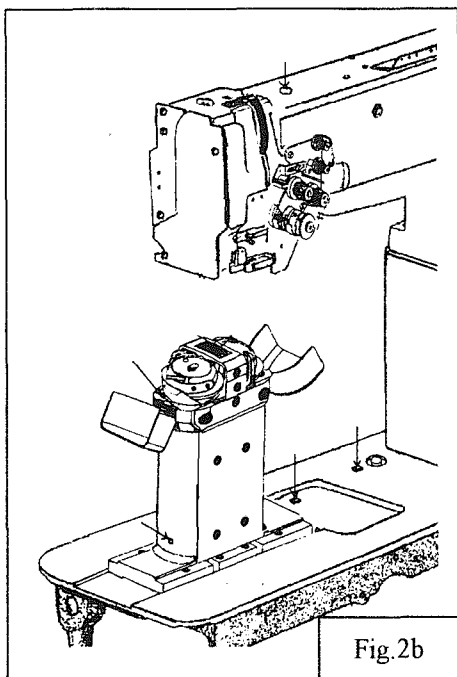

Fig. 2b
2. Lubrication (2) (Fig.2a, Fig.2b)